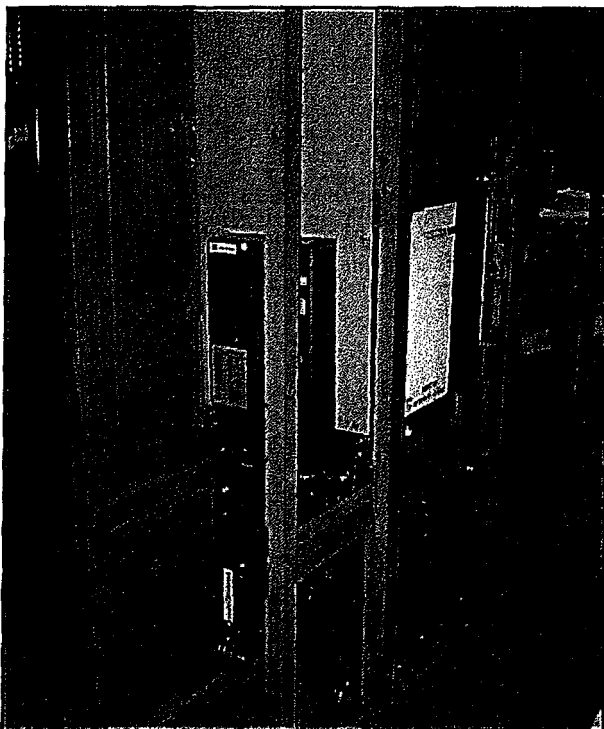

Figure 5-8 Rear Racking - Position "D" (Test)
Position D: (Figure 5-8) Insert the levering crank and rotate clockwise approximately (1) one turn. At this time, note that the breaker position mode indicator status will change from "TRIP-FREE" to "TEST/OPERATE". There is no click, stop or different feel to the levering crank at this point. The breaker is now in the "TEST" position. After reaching the test position, REMOVE the crank. In the "TEST" position, the breaker can be closed and tripped manually and electrically, thus allowing maintenance tests or checks. To operate the breaker electrically, the secondary control block must be engaged at this time. Release the secondary control block slider by pulling the release pin and pushing the slider toward the rear several inches. The slider is located on the lower left hand area of the circuit breaker frame. Push on the front side flat surface of the slider until the contact block can be felt to be fully engaged in the secondary block's socket. The spring charging motor will begin to run and charge the closing spring as the contact block engages. The breaker is now in the "TEST" position, with control voltage applied, and ready for testing. The breaker is held captive in the cell via the levering system.